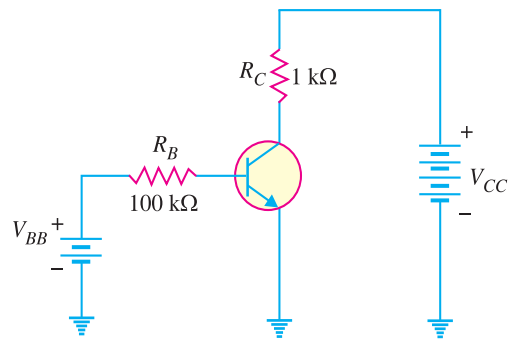

Fig. 8.74
14. A base current of $50 \mu\text{A}$ is applied to the transistor in Fig. 8.74 and a voltage of 5V is dropped across R_C . Calculate α for the transistor. **[0.99]**